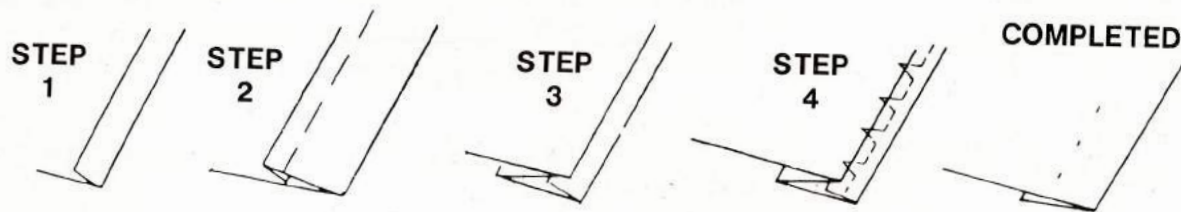

Fig. 27
- Step 1. (Fig. 27). If hem with folded edge is used make first fold $\frac{3}{8}$ " deep.